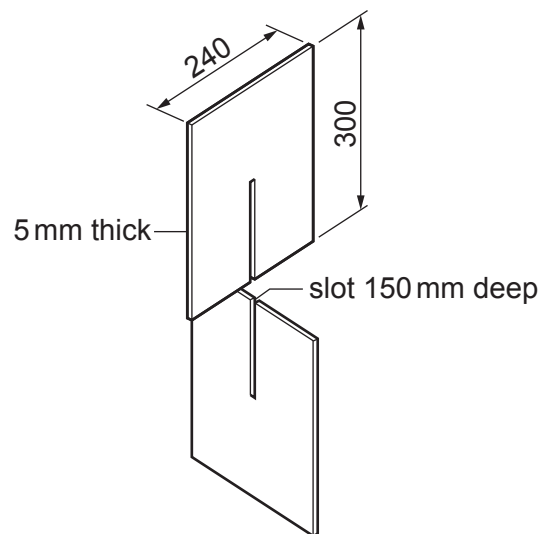

Fig. 12.2
- (d) Fig. 12.2 shows how the two uprights slot together to produce the main part of the storage unit.